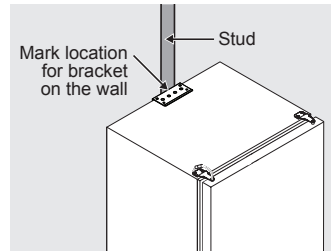

Figure 1
4. Identify a stud in the wall, behind where the unit will be placed, and make a mark on the wall (see Figure 1). If no stud is present behind where the hole is marked, go to step 6.
- Place the bracket against the wall and align the bottom face of the bracket with the measured height from step 6. Make sure one of the center holes is aligned with the mark made in step 4, and confirm the bracket is in the proper orientation (see Figures 1 and 2). Level the bracket.